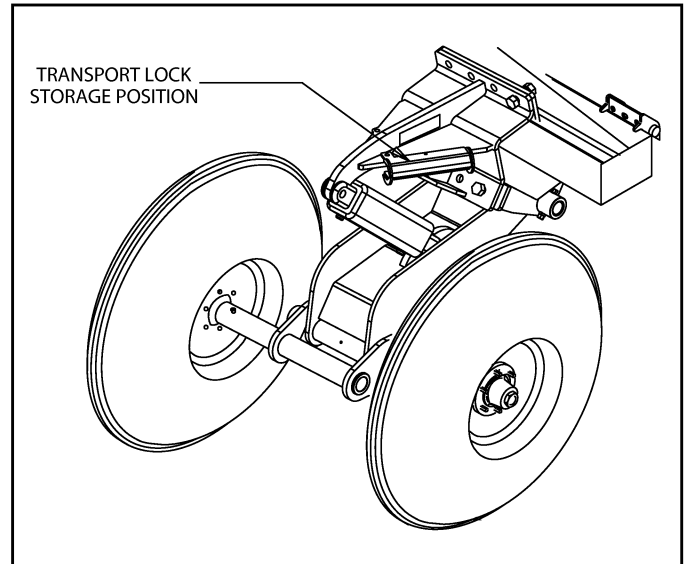

Figure 3 Storage Position
7. Remove transport locks. Store transport locks as shown in Figure 3.